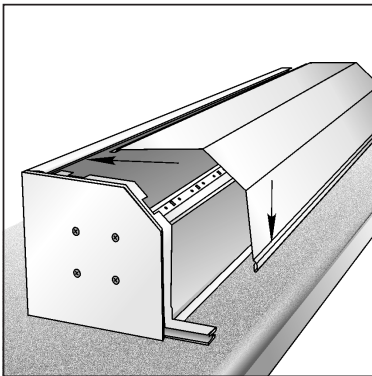

Fig. 03
- b) packing the shutter box (Fig. 03, 04);